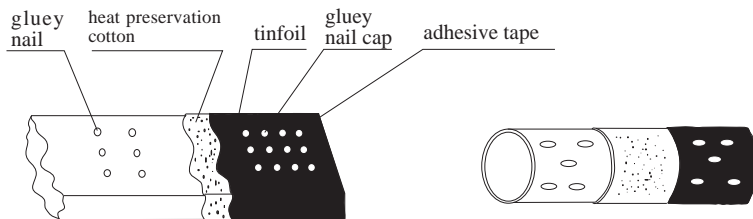

Fig. 3
- Air-sending duct and air return duct shall be thermally insulated. First stick the gluey nail on the duct, then attach the heat preservation cotton with a layer of tinfoil paper and use the gluey nail cap to fix. Finally use the tinfoil adhesive tape to seal the connected part. As Fig. 3 shown.